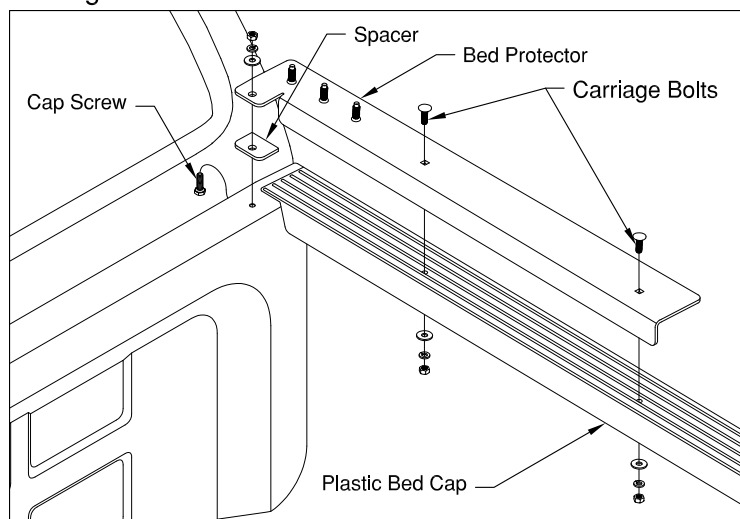

FIGURE A1: PASSENGER BED CORNER
- 1. Verify proper fit of Cab Protector.** Place the bed protectors on the pickup sides as shown in figure A1. Make sure the Bed Protector flange is pushed tightly against the front of the bed and the inside of the bed sides. Measure across the truck from the center of the middle threaded stud on the driver side to the center of the middle stud on the passenger side. Next measure the distance between the centers of the slots at the bottom of the cab protector. The two measurements should be within 1/2" of each other.
- 5. Install bed protectors.** Insert a 5/16" X 1-1/2" Carriage bolt in each of the four square holes and secure using a flat washer, lock washer and finish nut. From the inside lip of the front of the bed insert a 5/16" X 1" Cap Screw and attach (from the top) with a flat washer, lock washer and finish nut, See figure A1. Fasten the bed protectors into place but do not fully tighten hardware at this time.